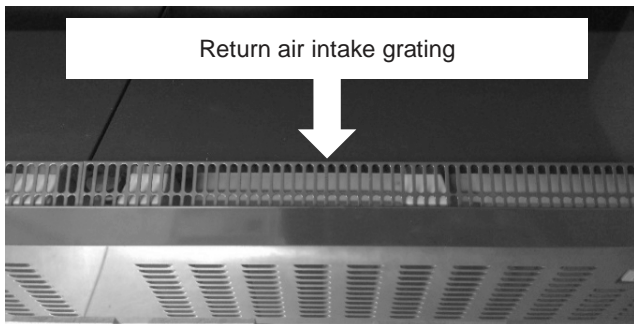

Fig. 7 Return air intake grating (symbolic representation)
- ▶ Loading is only permitted up to the edge of the return air intake grating (see → Fig. 7).